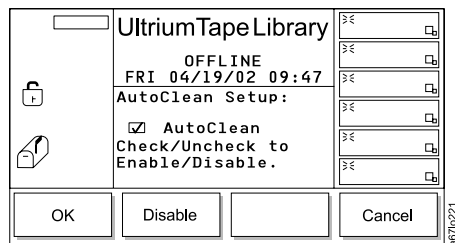

Figure 167. Autoclean Setup screen
5. Press the button below the **AutoClean** softkey. The Autoclean Setup screen displays (see Figure 167).